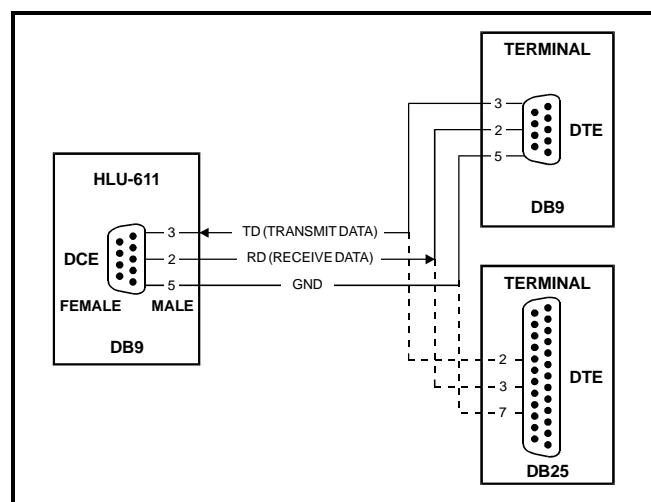

Figure 3. DB-9 Pin-outs.
**7.05** A 9-pin (RS-232) DB-9 connector, configured as DCE (see Figure 3), is provided on the front panel of the HRU-612. This provides access to the monitoring features of HiGain-2's maintenance, provisioning and performance monitoring interface. A very basic interface is available via a 'dumb terminal'. Figures 7 through 13 show the menu selections that are available from the terminal. Table 3 defines the various terms used in the screen displays. The port is configured as DCE with 8 data bits, 1 stop bit and no parity. Striking the SPACE bar several times invokes autobaud from 1200 to 9600 baud. Note that if the RS-232 port in an HRE-421 is used to access the HRU-612, a null modem must be used since the HRE-421 is configured as DTE .